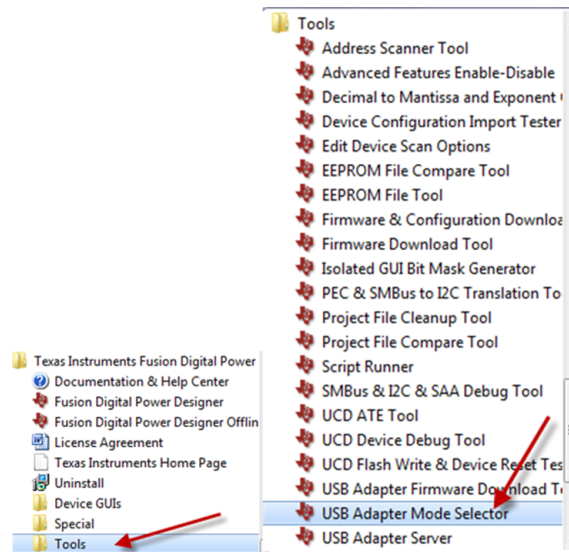

Figure 5. USB Adapter Mode Selector from Start Menu
1. Click Start>Texas Instruments Fusion Digital Power>Tools>USB Adapter Mode Selector as shown in Figure 5.